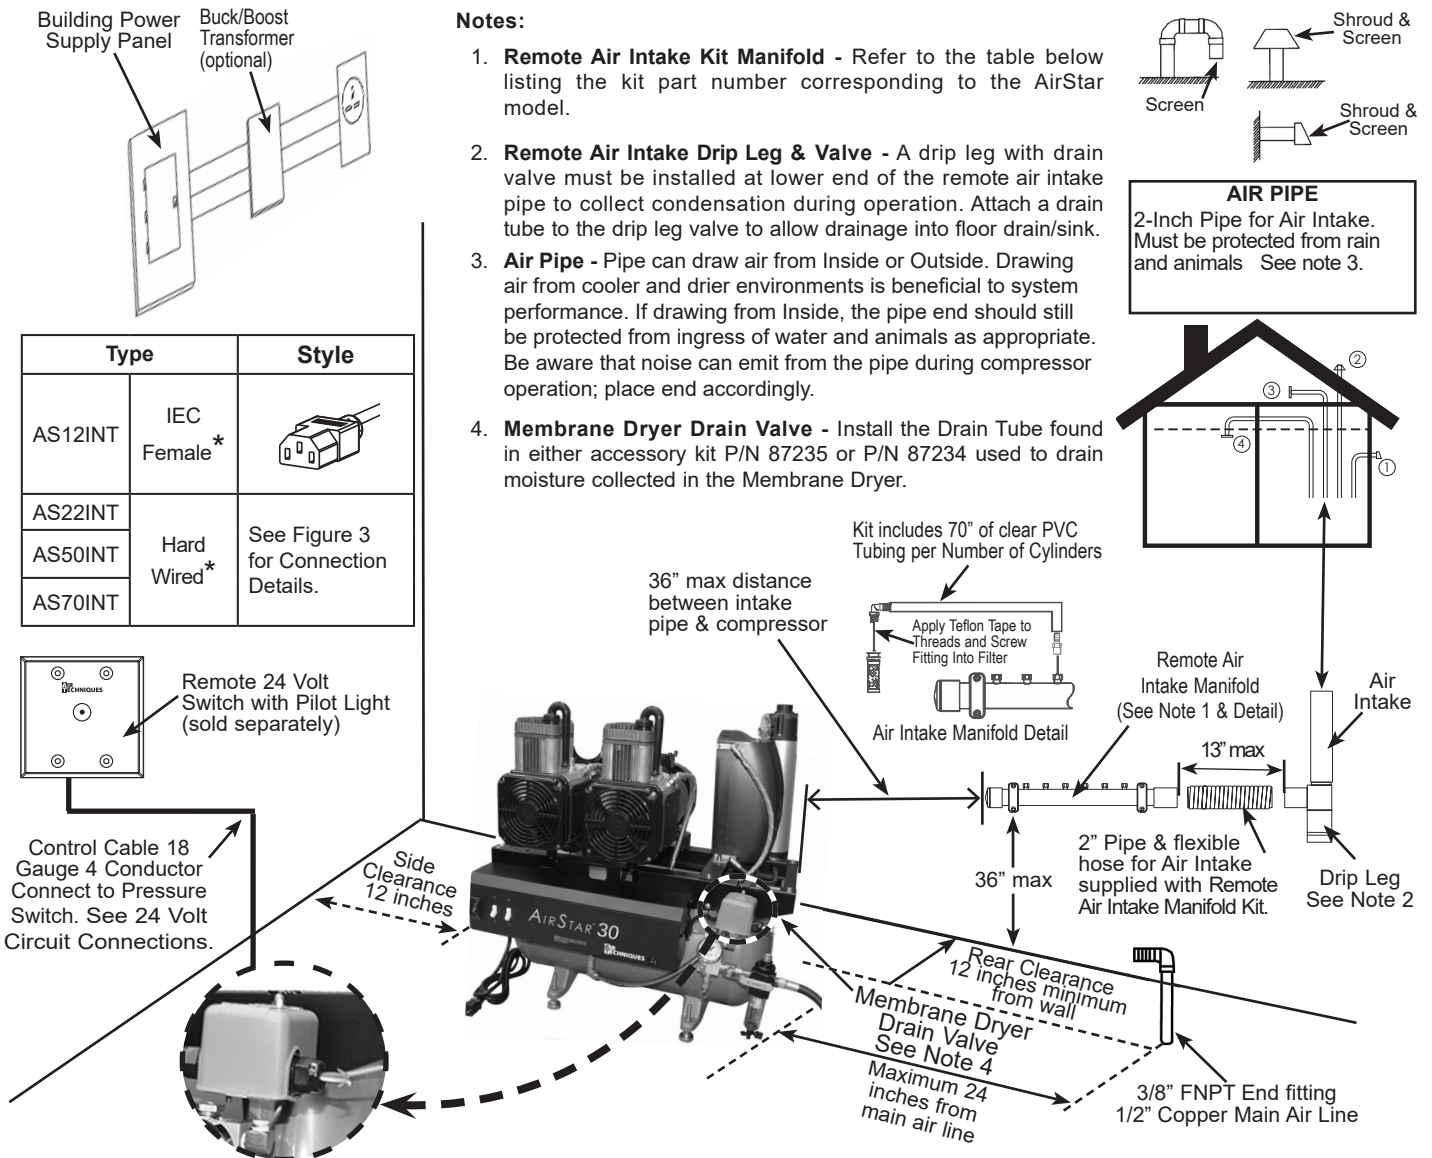

Figure 2. Overall Site Requirements
- **EQUIPMENT GROUNDING:** All **AIRSTARs** must be connected to a grounded metal, permanent wiring system, or an equipment grounding conductor must be run with the circuit conductors and connected to the equipment grounding lead in the **AIRSTAR's** flexible metal conduit power supply. Failure to do so can result in fire, electric shock, injury, or death. See Figure 2, Overall Site Requirements, page 7.